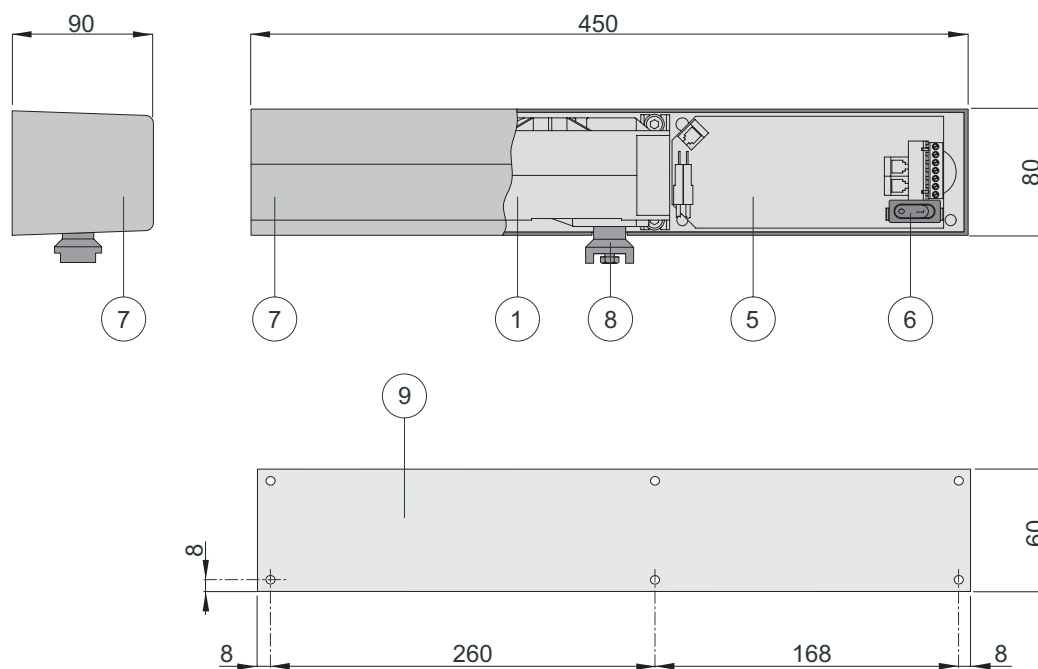

Fig. 2
2.2 Automation references (fig. 2)